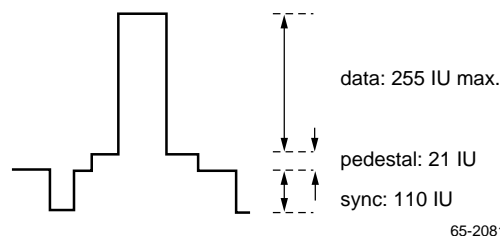
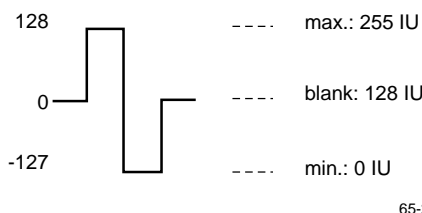

Figure 2. GBR/Y DAC Output Levels in Current Units
Figure 3. CBCR DAC Output Levels in Current Units
Nominal outputs (see Figure 2 and Figure 3) are expressed in Current Units (IU) where 1 IU is equivalent to the current activated by one unit of D/A input data (Gdata/Ydata, Bdata/CRdata, or Rdata/CBdata). SETUP = HIGH activates a 21 IU pedestal when  $\overline{\text{BLANK}} = \text{H}$ .  $\overline{\text{SYNC}} = \text{LOW}$  disables a 110 IU sync pulse. SETUP is programmed through Register 7 bit 2.